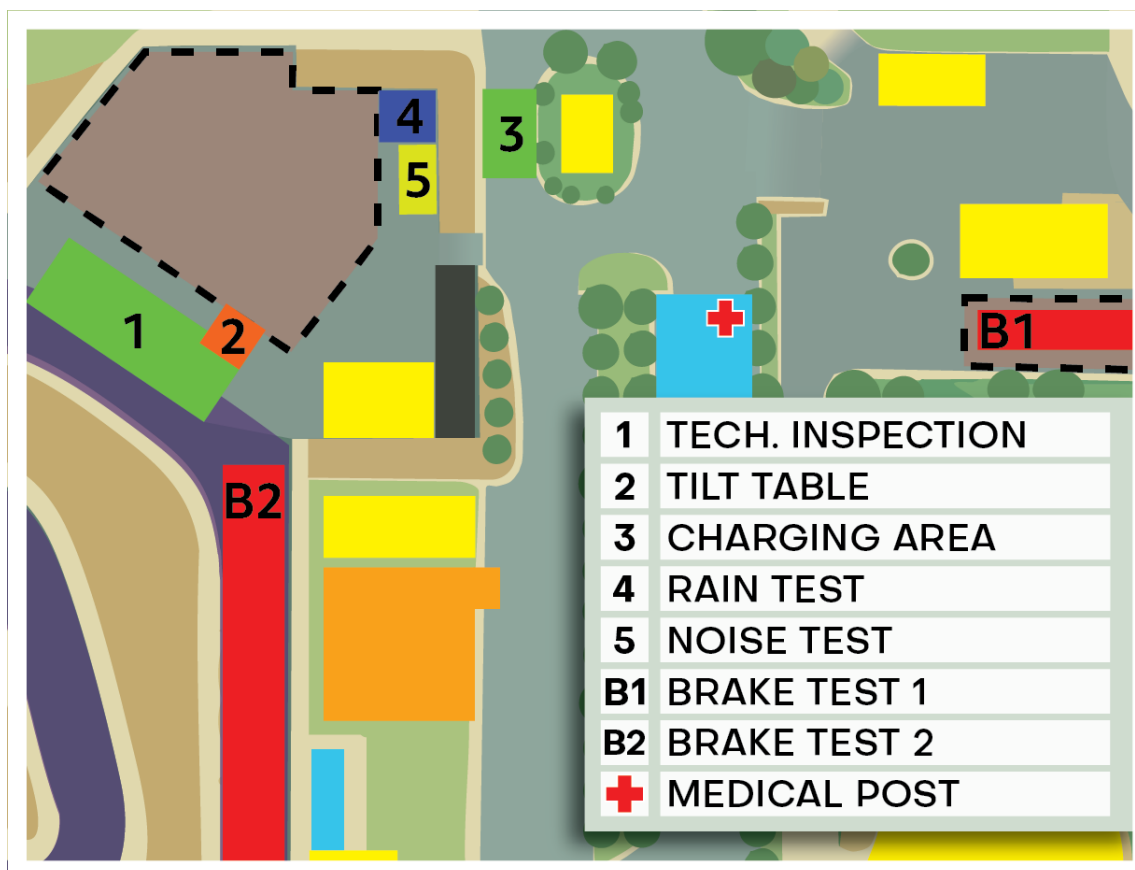

Figure 2: Technical Inspection Map
PT 6.4.1 Technical inspection will take place in all locations as seen in figure 2. The layout will change depending on the events taking place at a given day. By default, the practice area is the dynamic area near to the Tech. Inspection tent.
- **20-07-2026, 21-07-2026 and 22-07-2026:** as seen on figure 2. Brake 1 will be the only designated brake test area.